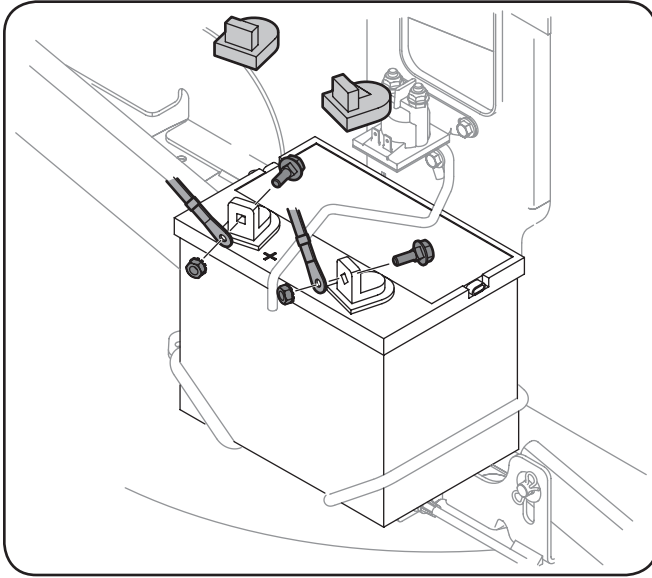

Figure 3-13
2. Remove the plastic cover, if present, from the positive battery terminal and attach the red cable to the positive battery terminal (+) with one of the bolts and hex nuts, previously removed, using a $\frac{7}{16}$ inch wrench and socket. See Figure 3-13.
3. Remove the plastic cover, if present, from the negative battery terminal and attach the black cable to the negative battery terminal (-) with the remaining bolt and hex nut. See Figure 3-13.